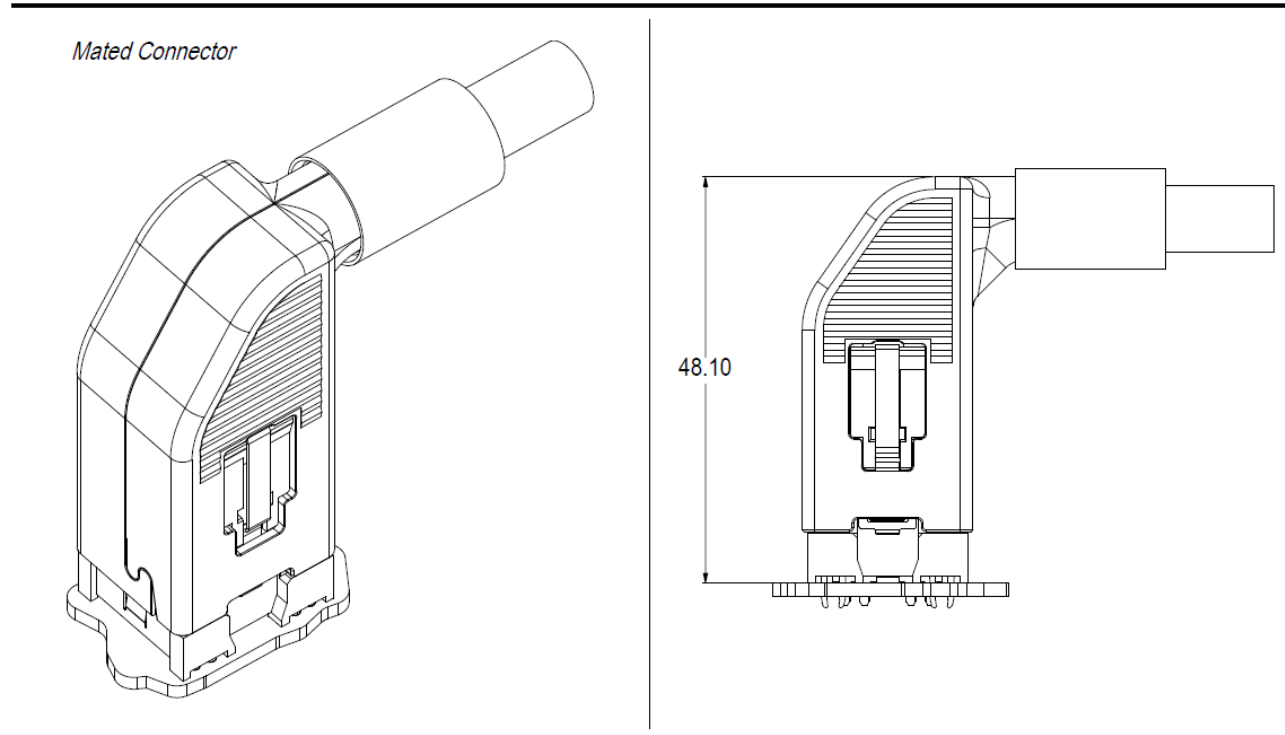

Figure 12
2. Press the cable connector onto the board connector until a tactile and audible “click” is heard and felt. The cable connector is mated if the latch opening is positioned as shown in Figure 12. The mating process is now complete.